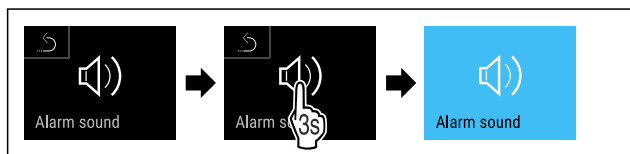

Fig. 110
- ▶ Complete steps (see Fig. 110) .